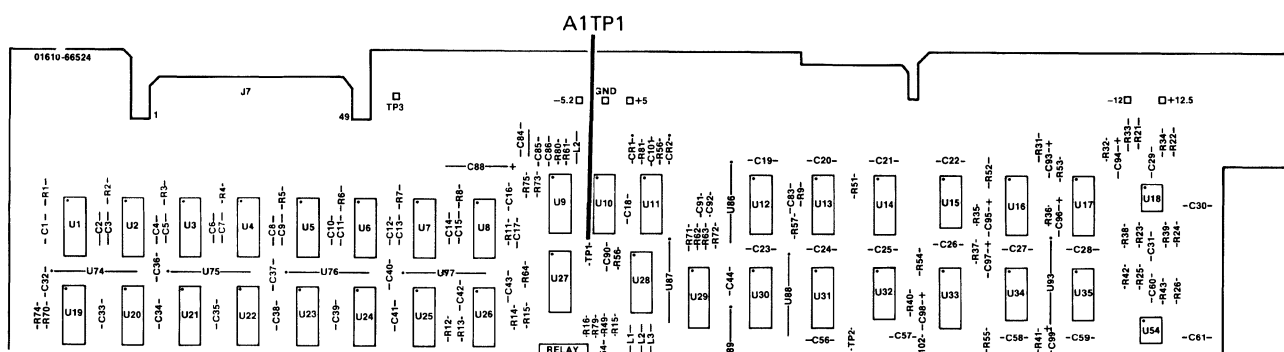

Figure 5-7. A1 Test Point Location
- f. Connect channel A of oscilloscope to test point A1TP1 located near center of assembly A1 (see figure 5-7).